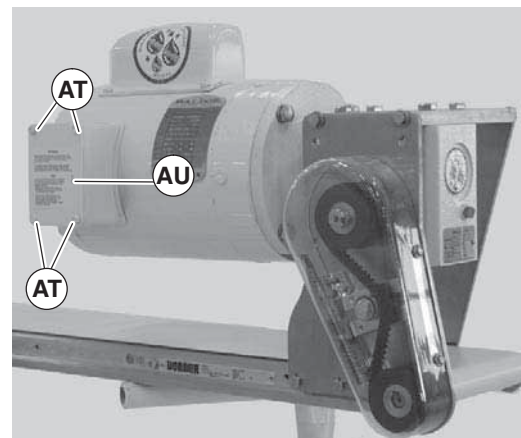

Figure 39
- Loosen terminal box screws (Figure 39, item AT) and remove cover (AU).